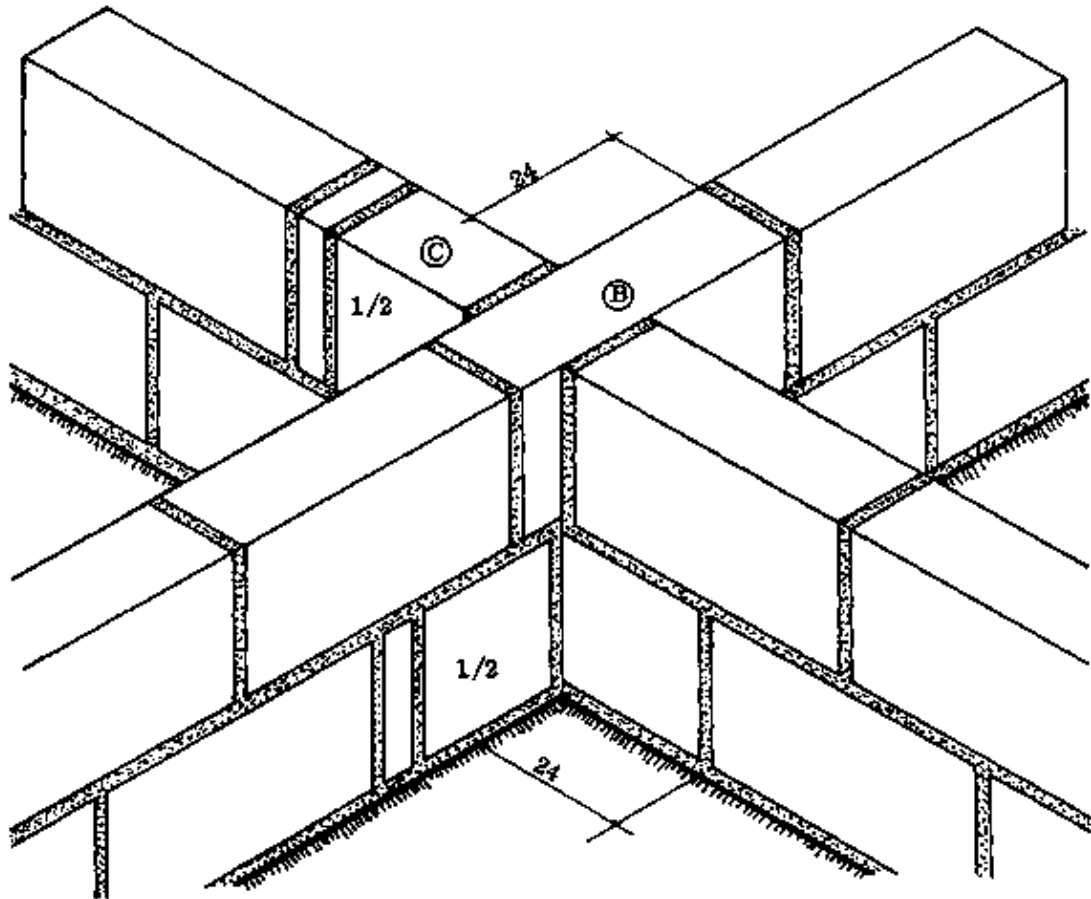

Fig. 2
In the second course, the wall which was crossed in the course below now goes through. The through block (B) again extends past the crossed wall by 24 cm, but on the side opposite from the 1/2 block in the course below. Block B is followed on its left-hand side by a 1/2 block (C) combined with a 5 cm block. This is continued in all four directions with full blocks (Fig. 2).